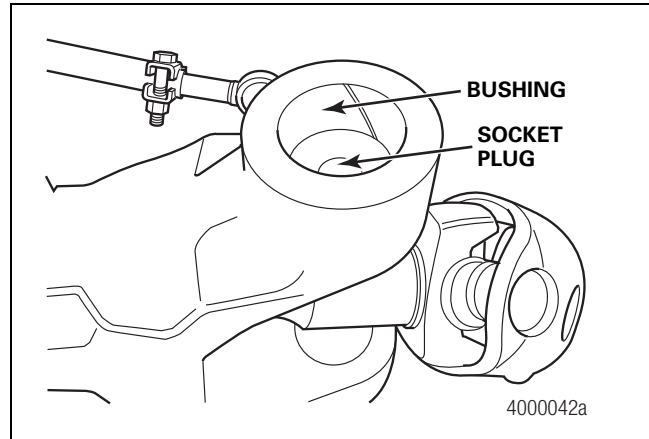

Figure 4.29
6. Inspect the upper and lower bushings for wear or damage while they're still in the housing sockets. Figure 4.29. Use the following procedure to remove worn or damaged bushings.